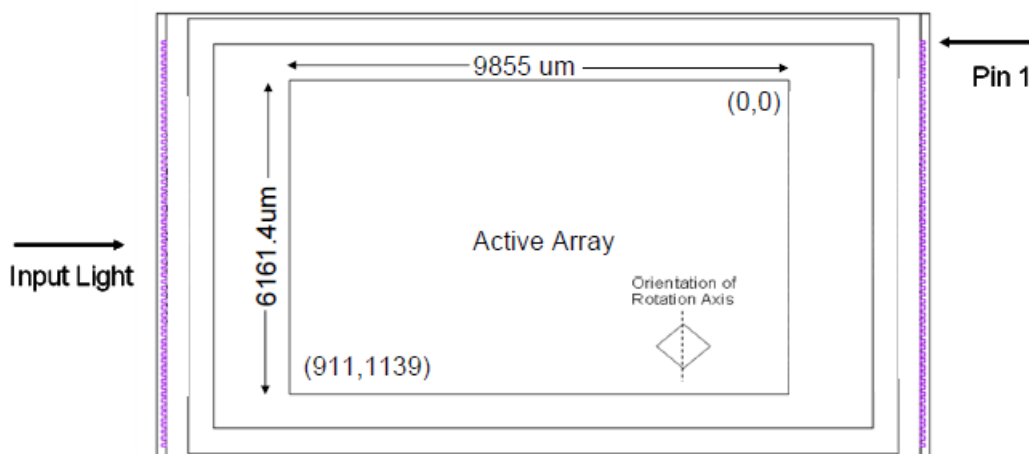

Figure 4. DLP4500NIR Micromirror Active Area
(1) See Micromirror Array, Pitch, and Hinge-Axis Orientation.
(2) See Micromirror Active Area in Figure 4.
(3) The mirrors that form the array border are hard-wired to tilt in the -12° ("Off") direction once power is applied to the DMD (see Micromirror Array, Pitch, and Hinge-Axis Orientation and Micromirror Landed Positions and Light Paths).